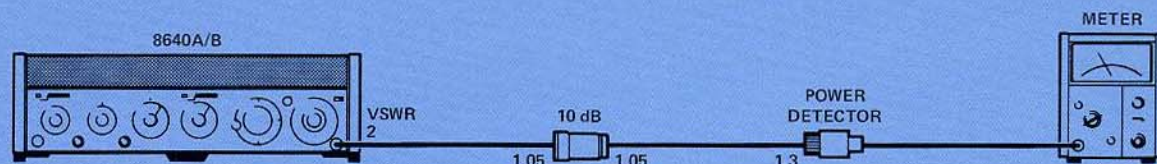

Figure 8. Reducing mismatch with a fixed, highly accurate 10 dB attenuator.
- Inserting a 6 dB or 10 dB attenuator between the 8640A/B and power detector as shown in Figure 8.